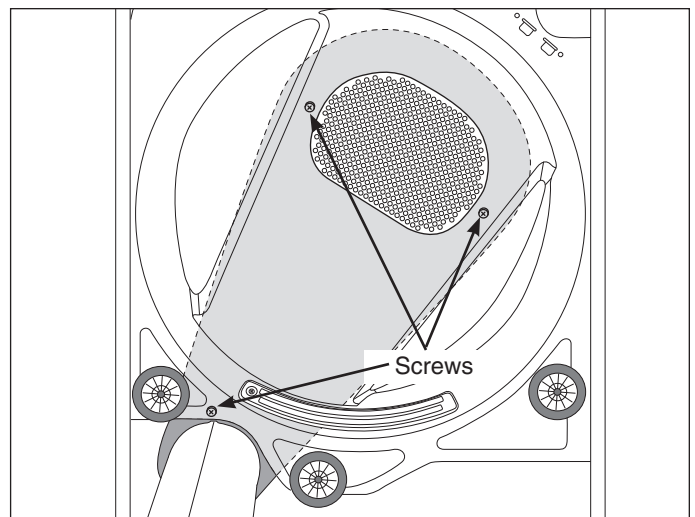

Figure 4-45.
3. From the inside of the inner panel, using a #2 square bit screwdriver and extract the screws securing the rear air duct to the rear inner panel. Pull the rear air duct from the rear inner panel. (See Figure 4-45)